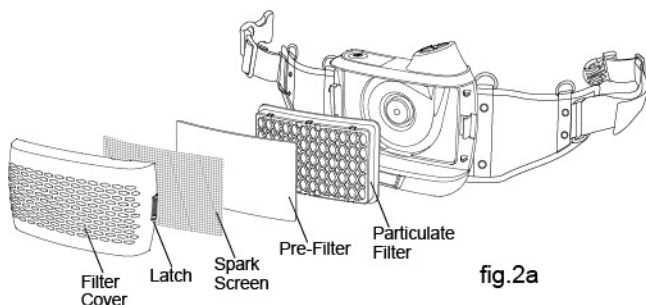

fig.2a
- Please install the particle filter according to fig.2a.